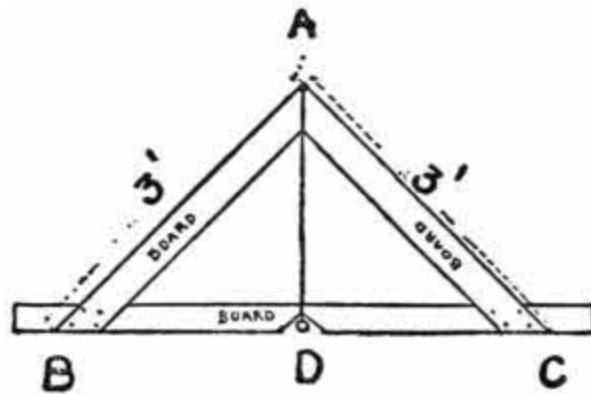

FIG. 64.
will make himself one, probably using three pieces of board, a string, and a weight, as shown in Fig. 64. The two side-pieces of wood being exact duplicates in all dimensions, the angles at the bottom are necessarily equal, and a line from the apex (A) to the centre of the bottom-piece must be a plumb line. After sawing out his side-boards and joining them at their top edges, he nails a straight piece to the bottom-ends, using the utmost care to have the lower edge of the bottom-board exactly the same distance from A on each arm; that is, A B must be exactly the length of A C, and B D must equal D C. He next cuts a small notch at A, so that he can fit a string at the crack between the two arms, A B and A C. A notch is also cut at D, to allow the weight play-room. When the lower edge of the bottom-board is placed upon a level, and the string ceases to vibrate, it will be found that, the bullet hanging free, the string exactly covers a line which has been previously ruled across the bottom-board. The line was ruled by placing a straight-edge, or rule, at A and D. The slightest incline of the base-board will throw the string to one side or the other, and show the base to be out of level.